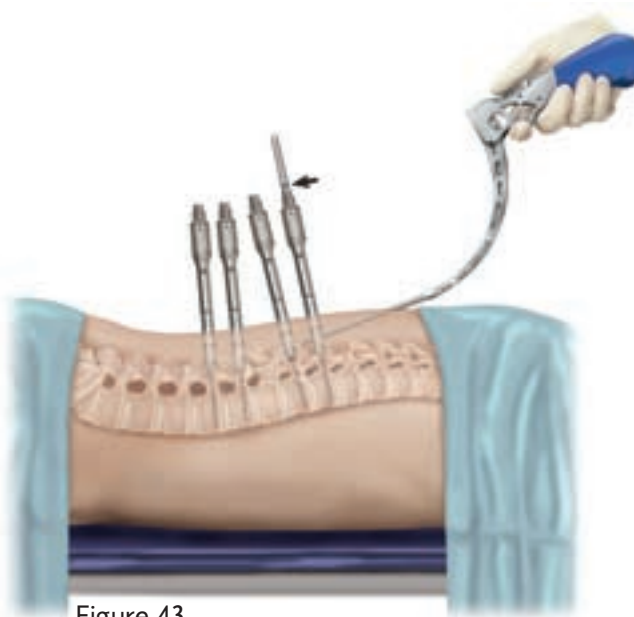

Figure 43
1. Dropping the Rod Confirmation Tool down the shaft of the Extender. If the line is visible, the Rod is through the Extender (Figure 43). If the line is not visible, the Rod is not through the Extender.